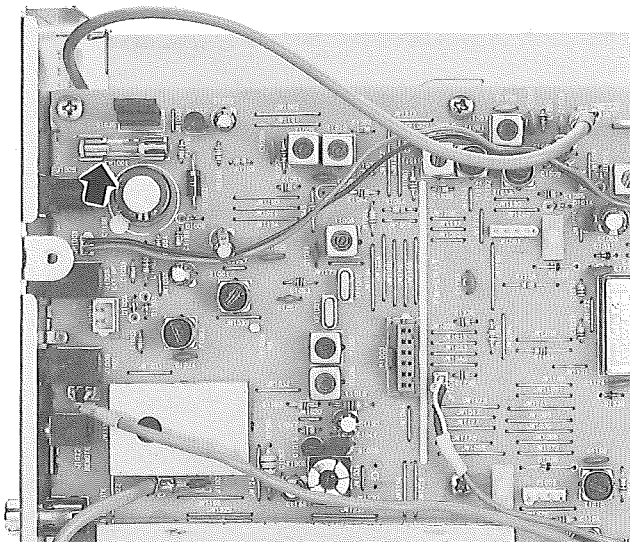

Figure 6: Fuse Replacement
- ☐ Locate fuse **FH1001** at the upper right corner of the circuit board next to the **DC 12 V IN** connector (Figure 6).